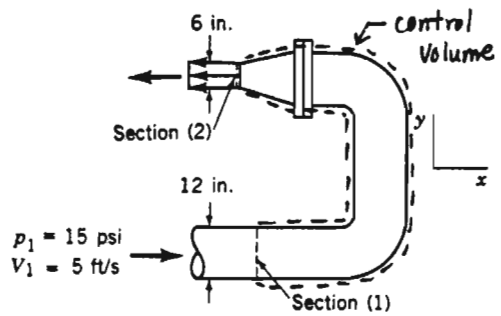

FIGURE P5.100
5.100 For the 180° elbow and nozzle flow shown in Fig. P5.100, determine the loss in available energy from section (1) to section (2). How much additional available energy is lost from section (2) to where the water comes to rest?